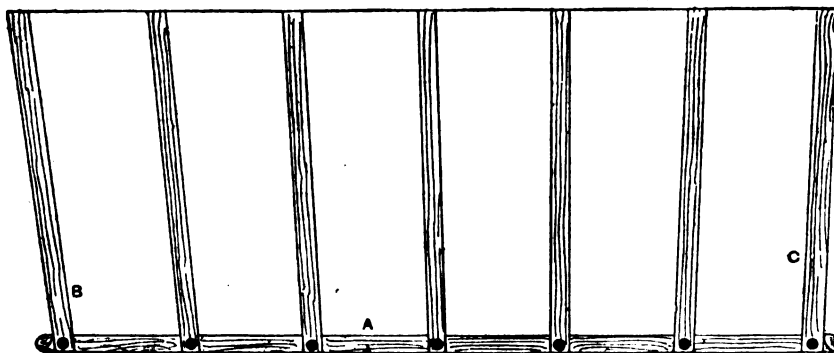
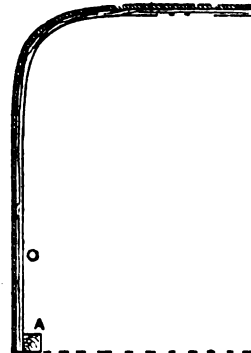

Fig. 1
Fig. 2
**Setting Out Van Tilt.**—As a help in setting out, Fig. 1 shows the side elevation of the framework of a van tilt 8 ft. long, 5 ft. wide, by 3 ft. 7 in. deep, and Fig. 2 a half-section of the tilt close-boarded on the outside. To make the tilt, two pieces of English ash A (Figs. 1 and 2), 8 ft. 4 in. long, 3 in. wide, by 2 in. deep, should be planed up square and true in line, and fixed on the van. Let in the front hoopstick B (Fig. 1), giving it a sail forward of 6 in., as shown, and keeping it in 2 in. from the front of the rave; then put in the hind hoopstick C (Figs. 1 and 2), giving it a sail backward of 1½ in. Having fixed both hoopsticks into the rave level with the outside, as shown in Fig. 2, set out an equal division at top and bottom, cramping the hoopsticks on to the edge of the rave at the same height as the front and hind hoopsticks. Fix a long straightedge on the top of the front and hind hoopsticks; it will then be easier to set the hoopsticks out true. A helper will also be necessary to tighten up the cramps used to keep the hoopsticks in place. When they are all in position, with a striking awl mark each side of the hoopsticks on the rave, numbering them as the work is proceeded with. When this is done, take off all the hoopsticks, then the raves, and let the hoopsticks in at the bench; then cut the ends on the rave, and put the hoopsticks in with a cramp on each one, as the top face of the hoopsticks must be made level on the top and round the corners to get the boards on tight and level. Now fix the hoopsticks in with a 1½-in. No. 14 screw at each side. For covering the tilt use ½-in. yellow